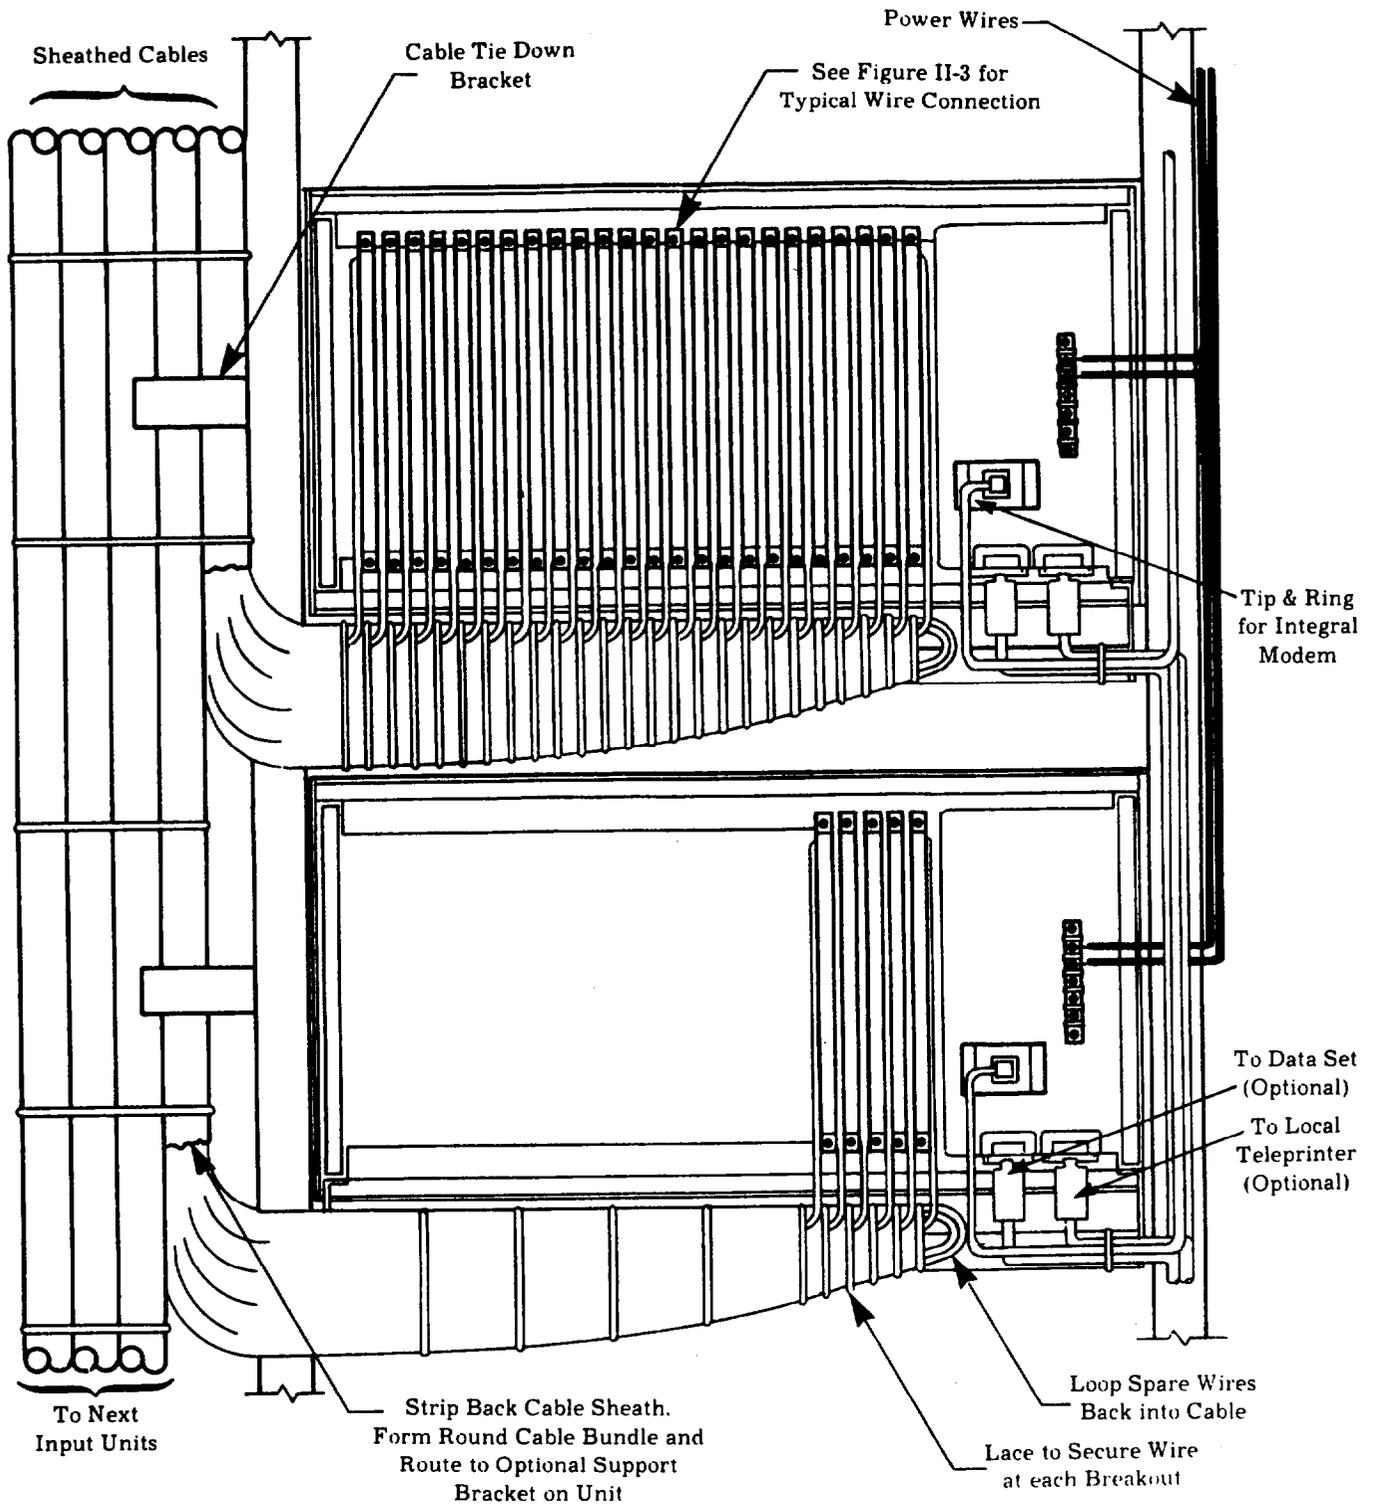

Figure II-8—Electrical Installation
4.08 Figure II-8 illustrates the recommended configuration for electrical installation of the Traffic Recorder, and includes considerations for the installation of more than one unit.